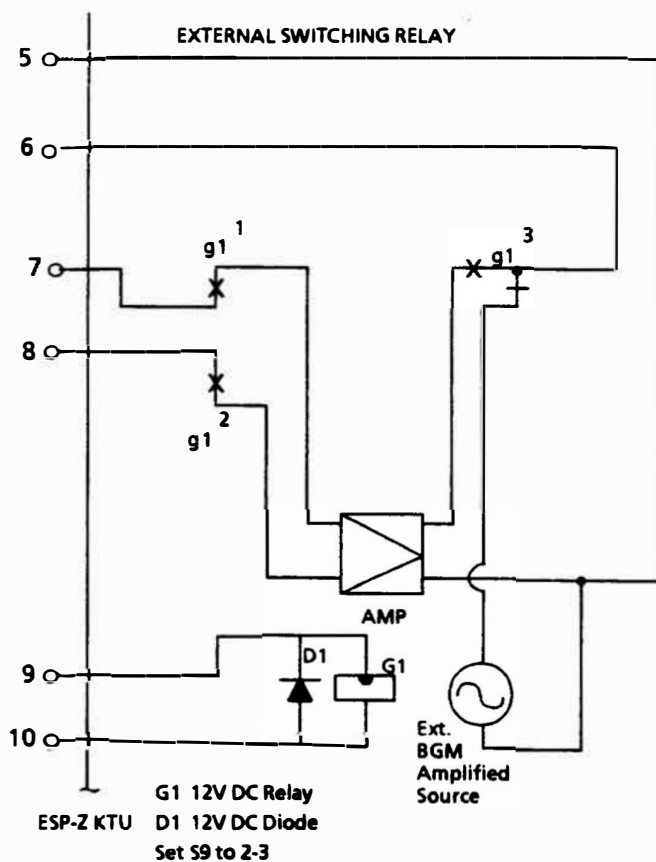

Figure 200-49 Connection of External High Power Amplifier with BGM
3. For External Page with an External amp refer to Figure 200-49 Connection of External High Power Amplifier with BGM and set S9 to 2-3.